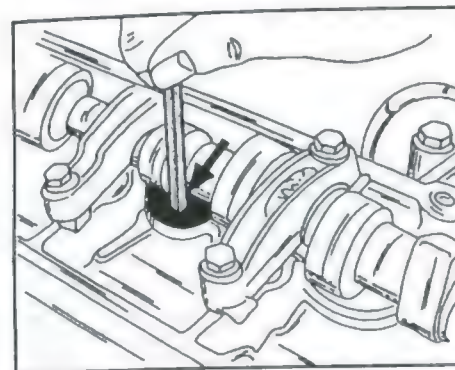

Fig. 1.27 - Checking of a hydraulic compensating element.
- Use a drift, as shown in Fig. 1.27 and push the tappet towards the inside, or try to move the tappet with the fingers.